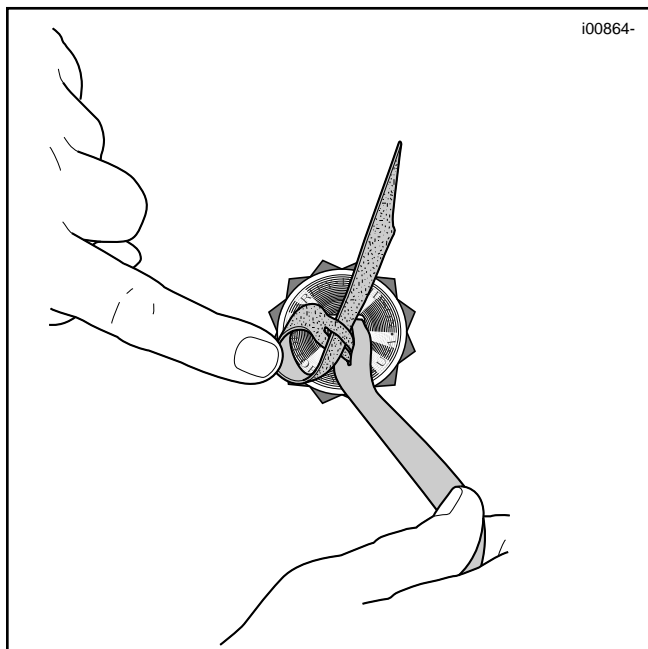

Figure 5. Slip Top Into Its Own Slit
- 3A. See Figure 5. Take the top (rough) side, turn the pointed end downward and slip it into its own slit from the bottom. Finish by pulling the strap toward you. this will twist the sides of the slit. After doing this, proceed to Step 4.